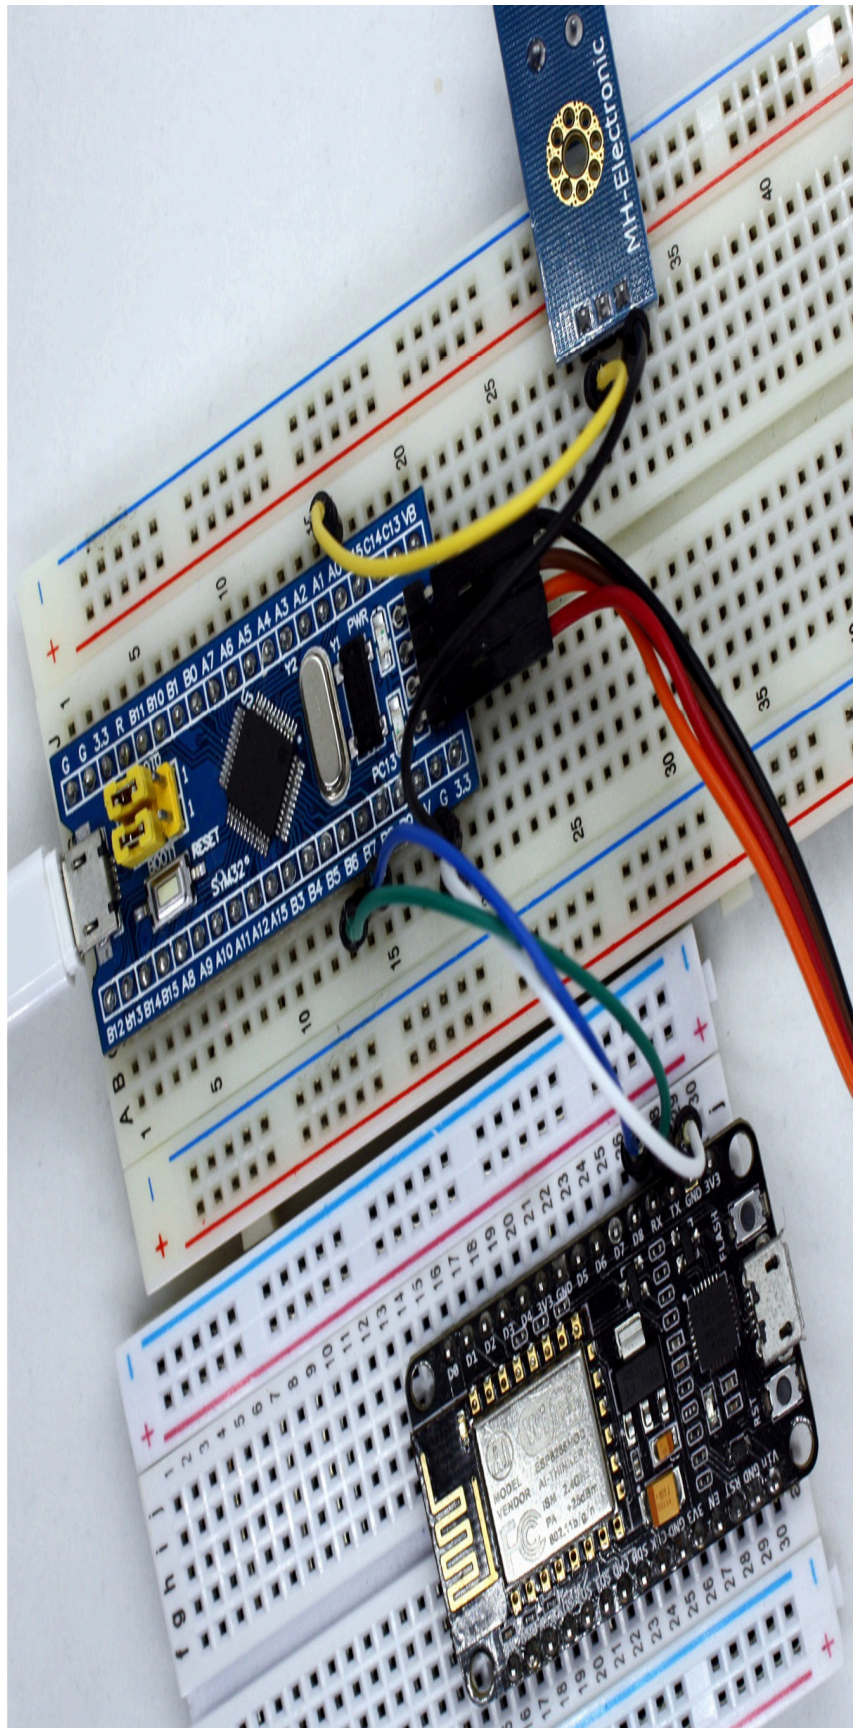

Figure 11.13 – STM32 and NodeMCU serial connection
*Figure 11.13* shows how everything was connected in the actual system, including the voltage sensor: